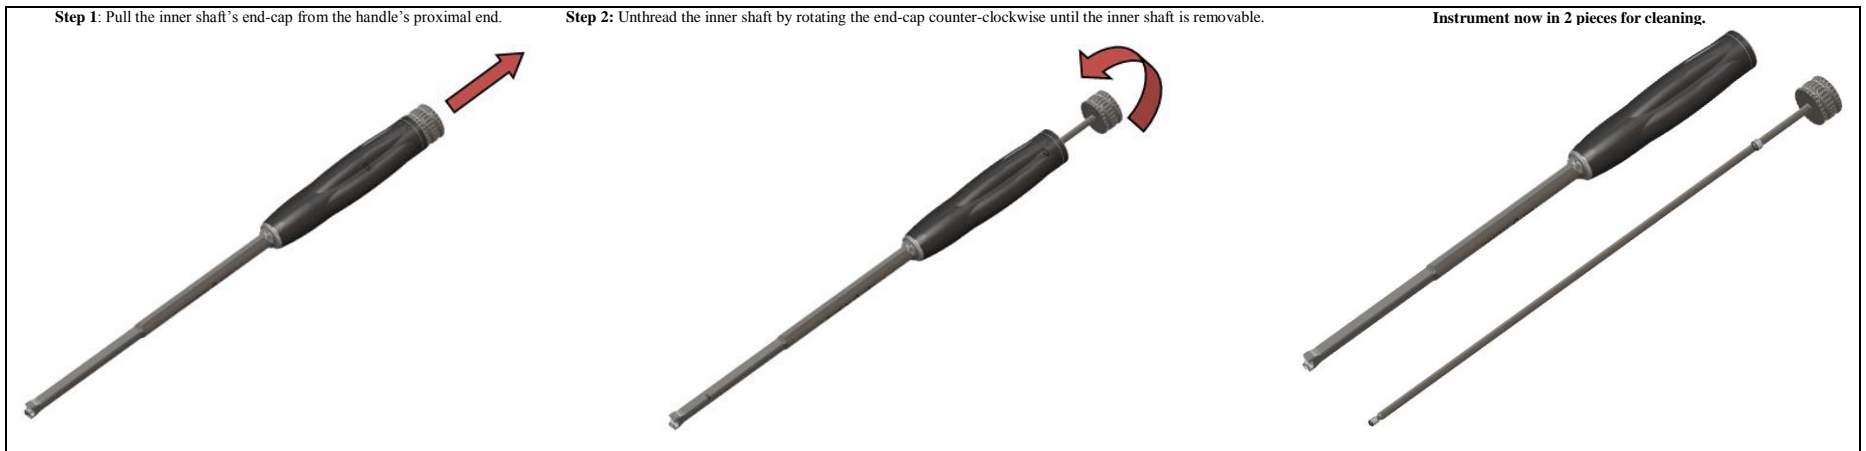

Figure 1: (Dis)assembly instructions for Straight Implant Inserter and TLIF Implant Inserter
2. **Pre-Cleaning:** The Straight Implant Inserter (p/n 2141-000-001) and TLIF Implant Inserter (p/n 2141-000-002) must be disassembled before cleaning. To disassemble the Straight Implant Inserter and TLIF Implant Inserter, remove the inner shaft by unthreading at the handle's proximal end (Figure 1). No other S141 Lumbar Interbody Fusion System instruments require disassembly. Prepare a room temperature neutral pH enzymatic cleaner* (e.g. ENZOL® Enzymatic Detergent) and remove gross contaminants by thoroughly brushing devices with a soft bristled brush ensuring all hard to reach areas are accessed.
4. **Rinsing:** Thoroughly rinse the devices with deionized or distilled water for a minimum of 2 minutes. Repeat rinsing a total of three (3) times.